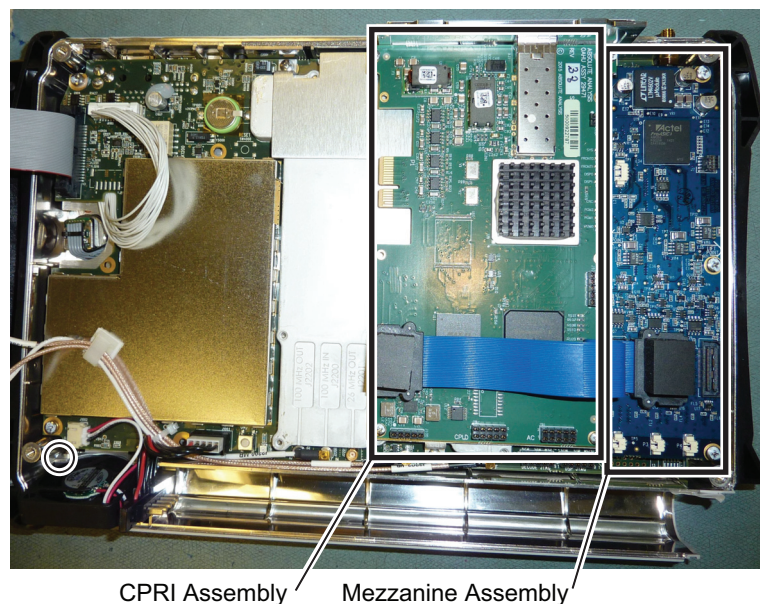
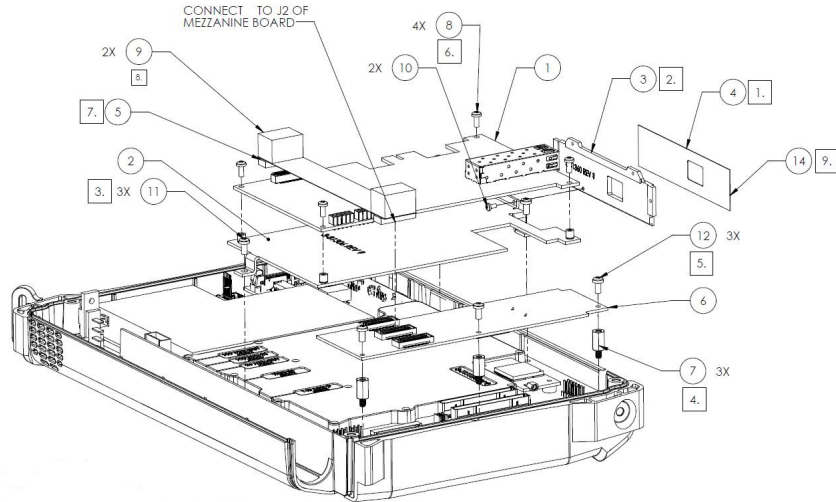

Figure 7-15. CPRI and Mezzanine Assemblies
Figure 7-16. CPRI Assembly (1) and Mezzanine Assemblies (6)
2. See Figure 7-15 and Figure 7-16 for the following key items:
- CPRI Assembly (1)
- Mezzanine Assembly (6)
- High speed cable (5) that is connected from the CPRI Assembly (1) to the middle connector of the Mezzanine Assembly (6).